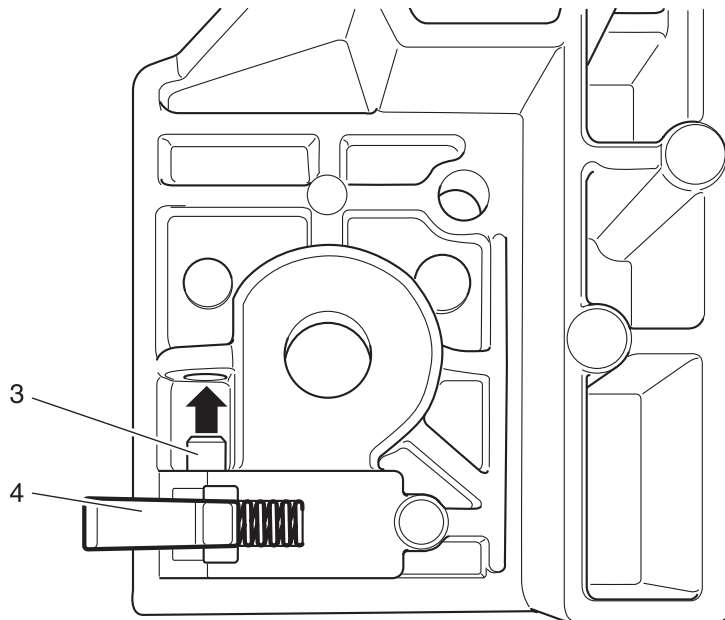

Fig. 17b
- Use a piercer to knock bolt 3 as far as possible towards the back and remove with combination pliers (fig. 17b).